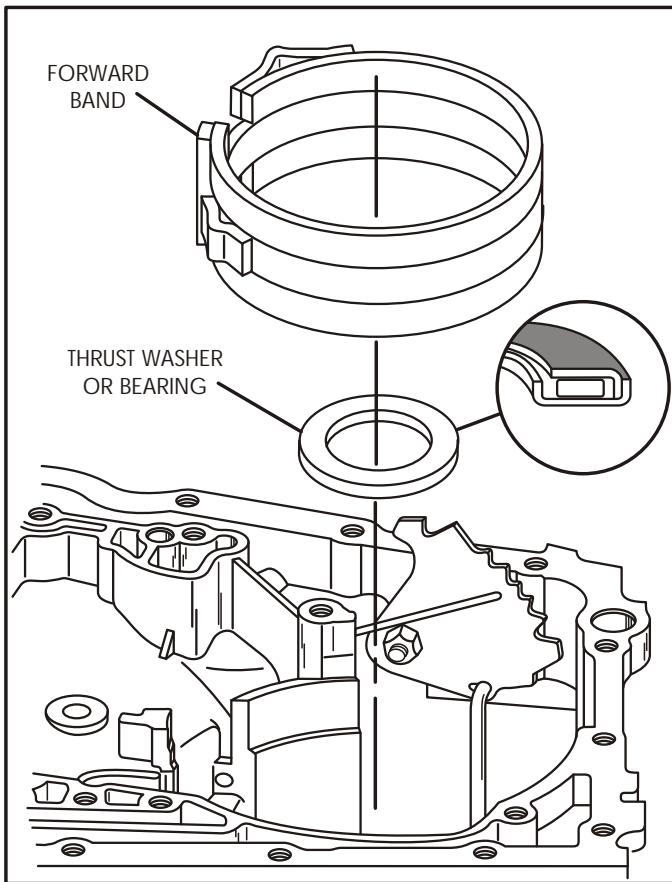

Figure 155
33. Install the thrust washer onto the final drive ring gear, as shown in Figure 155.
Note: The transaxle may have a thrust washer or thrust bearing in this position. If it has a thrust bearing, install with black side up, as shown in Figure 155.
34. Install the forward band assembly into the case ensuring that it is engaged on the band anchor (See Figure 155).